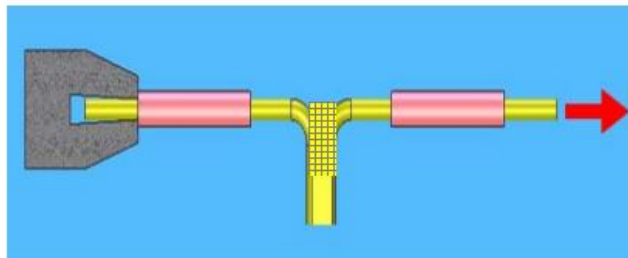

FIGURE 7 - PEEL STRENGTH TEST SET-UP (BUTT SPLICE SHOWN)
1. Load WUT in the test fixture so that the smallest wire is in the moveable jaw of the fixture. Place the largest wire available for testing in the fixed jaw. The peeling action that results must match the peeling action shown in Figure 7. The largest and smallest wires of the WUT must be pulled 180° apart.